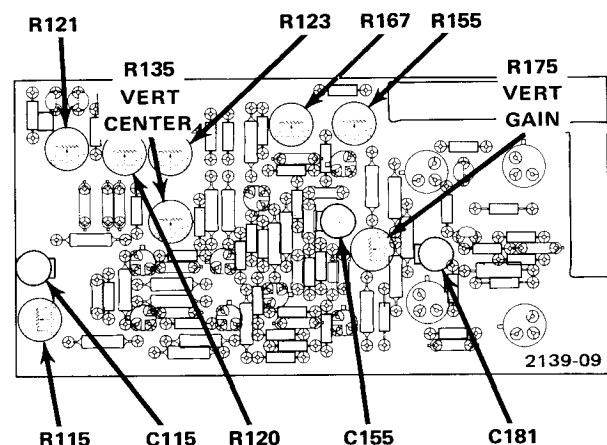

Fig. 5-4. Location of Vertical Amplifier adjustments.
c. ADJUST—Vertical Centering R135 to position the trace to the center horizontal graticule line. See Fig. 5-4 for adjustment location.
e. ADJUST—Vertical compensation R121 for optimum flat top on the displayed pulse, then adjust R120 and R123, increasing the sweep rate of the time-base unit to $1\ \mu\text{s}/\text{div}$ and $0.5\ \mu\text{s}/\text{div}$, respectively. Repeat as necessary to obtain optimum flat top on the waveform. See Fig. 5-4 for adjustment locations.
g. ADJUST—Vertical compensations C637 (this adjustment is located on the main interface board between vertical compartments, SN B063251-up), C115, R115, C155, R155, R167, and C181 in the order given, for optimum square leading corner with aberrations within the limits given in part d. There is direct interaction between C115 and R115, and between C155 and R155. Best results are usually obtained by setting R115 fully clockwise, then adjusting C115. See Fig. 5-4 for adjustment location.
d. ADJUST—Vertical Centering R135 to position the trace to the center horizontal graticule line. See Fig. 5-4 for adjustment location.
e. ADJUST—Vertical compensation R121 for optimum flat top on the displayed pulse, then adjust R120 and R123, increasing the sweep rate of the time-base, when necessary. Repeat as necessary to obtain optimum flat top on the waveform. See Fig. 5-4 for adjustment location.
f. ADJUST—Vertical compensations C637 (this adjustment is located on the main interface board between vertical compartments, SN B063251-up), C115, R115, C155, R155, R167, and C181 in the order given, for optimum square leading corner with aberrations within the limits given in part d of this step. There is direct interaction between C115 and R115, and between C155 and R155. Best results are usually obtained by setting R115 fully clockwise, then adjusting C115. See Fig. 5-4 for adjustment location.